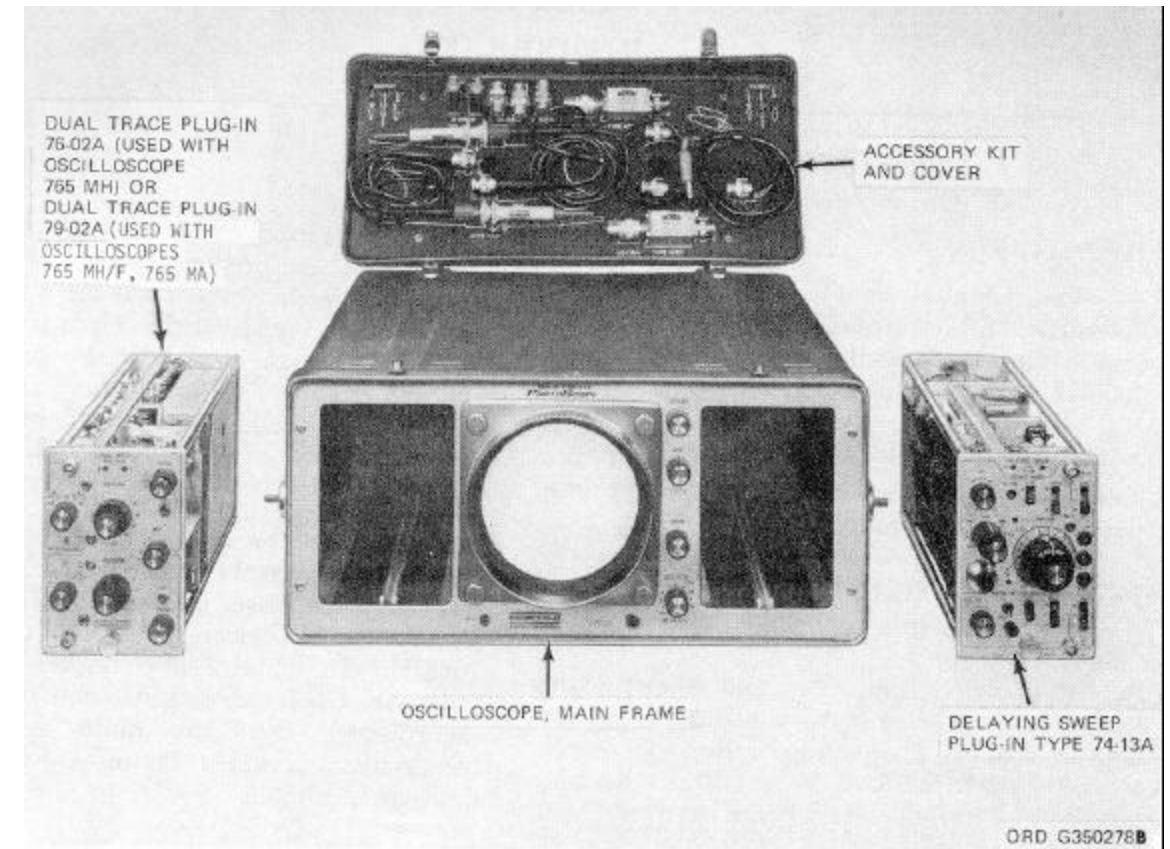

Figure 1-1. Oscilloscope FD-765MH or FD-765MH/F (portascopes).
a. This manual contains instructions for operation, and for organizational, DS, and GS maintenance of oscilloscopes 765MH and 765MH/F (Portascopes) (Fig. 1-1).